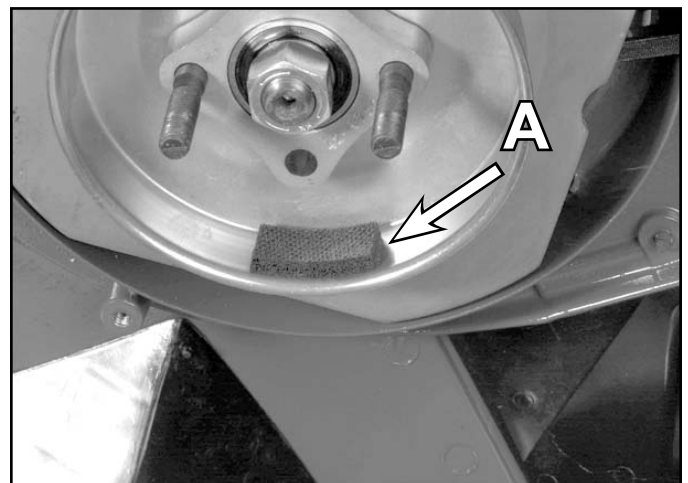

Fig 195
3. Note the two small foam pads inside the brake drum (Fig. 195).